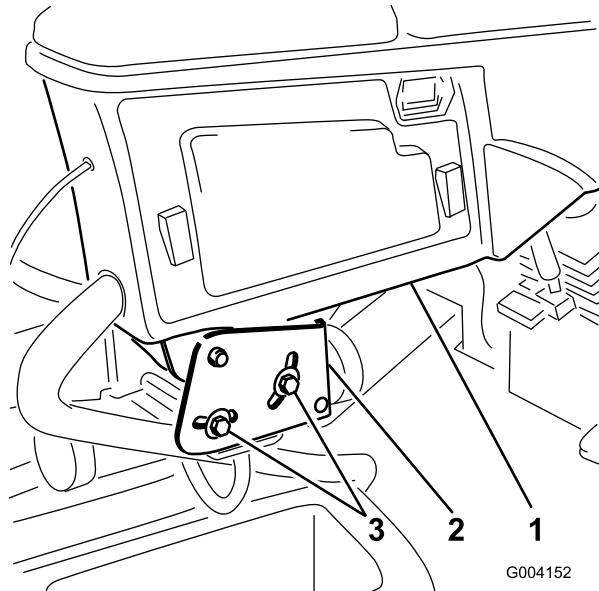

Figure 3
- 1. Loosen the 2 bolts securing the control arm to the retaining bracket (Figure 3).